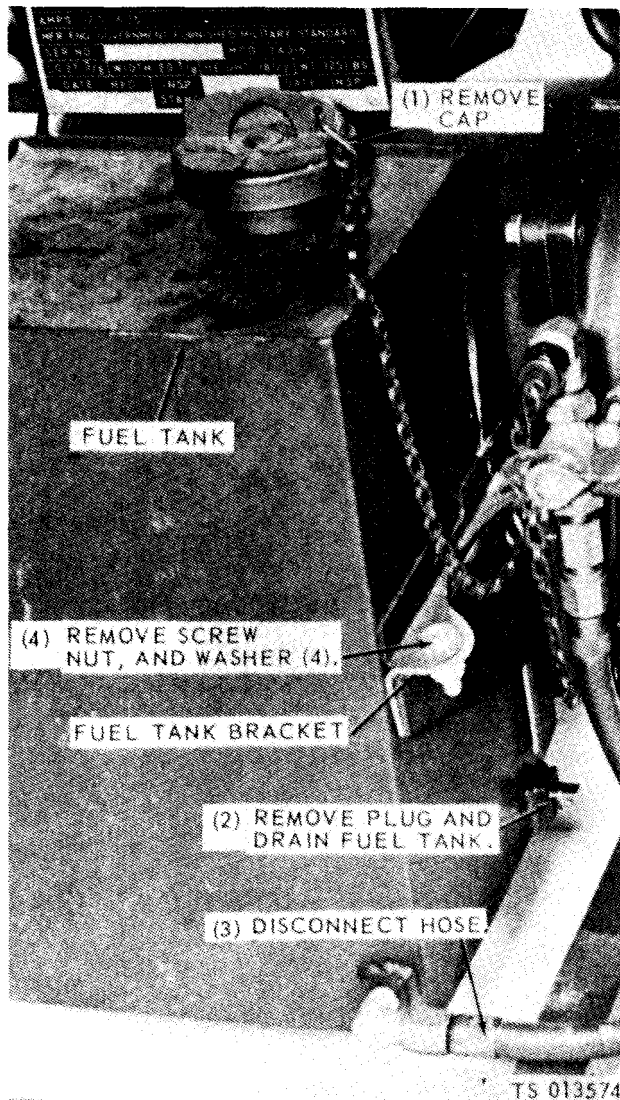

Figure 4-12. Fuel tank, removal and installation (stainless steel tank).
(2) Refer to figure 4-12 and remove the fuel tank.